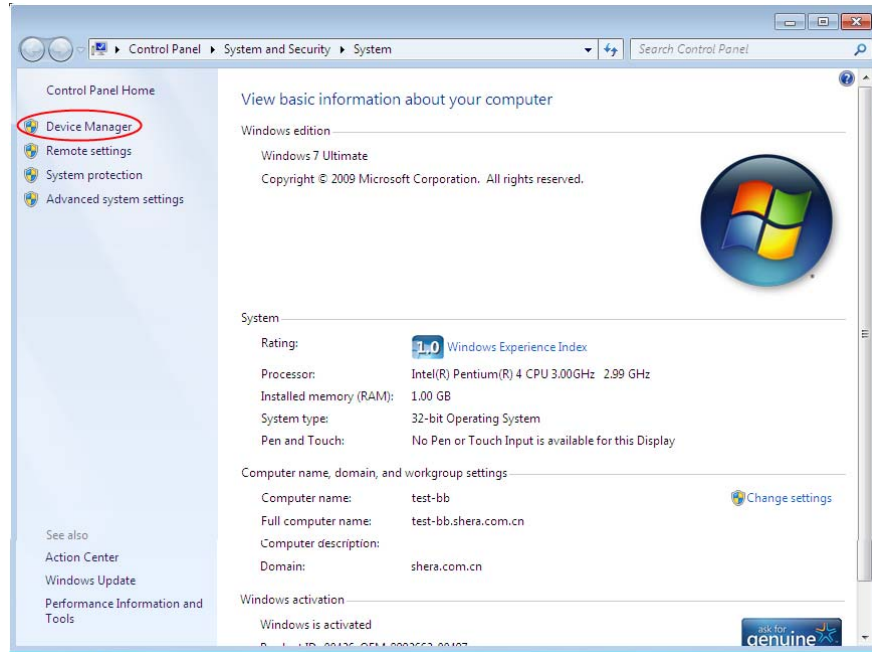

Figure 63
- b. Open **Properties** page and click **Device Manager** tab as Figure 63.